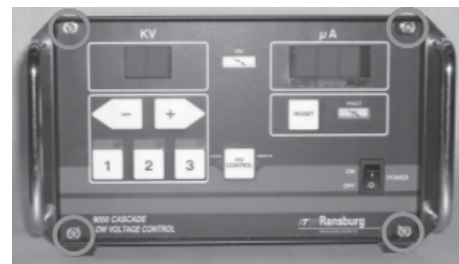

Figure 1: Front Face of Control Unit With Screw Locations Noted
19. Tighten the four (4) screws on the front face of the control unit using a #2 Phillips head Screwdriver (see Figure 1).